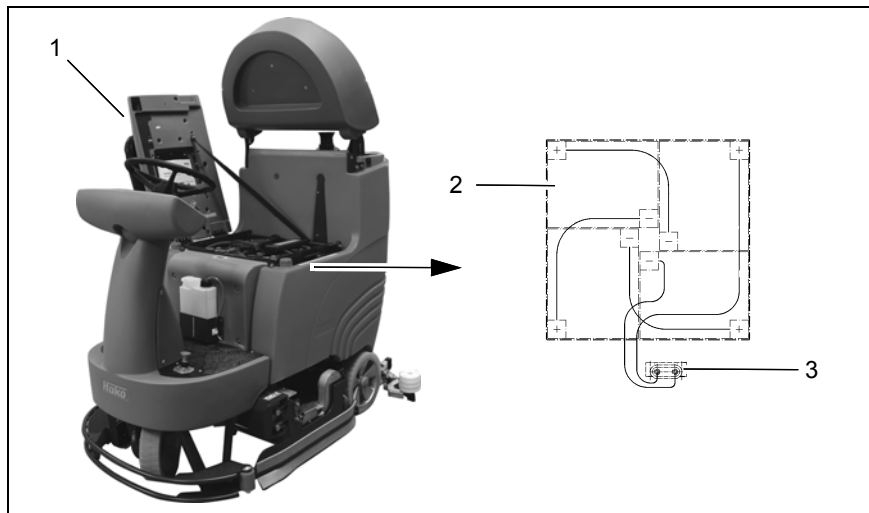

Fig. 5
2. Open the seat console (Fig. 5/1).
4. Connect the battery poles in accordance with the connection diagram (Fig. 5/2).
6. Check the battery plug (Fig. 5/3), refer to Section 2.2.6.